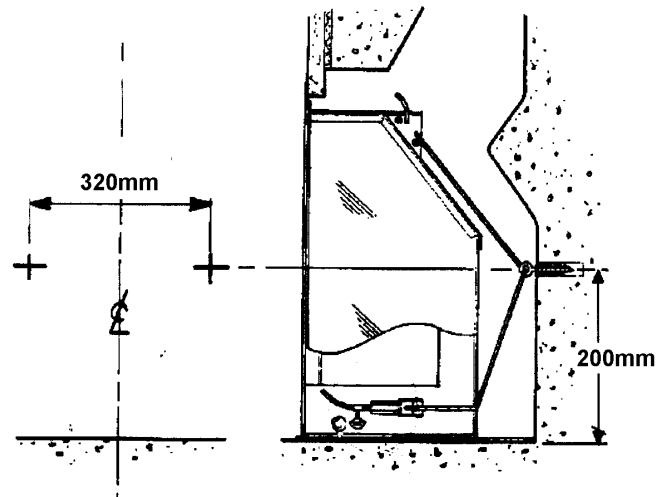

Figure 2 Eyebolt hole positions
- Drill two holes in the rear wall of the fireplace for the eyebolt plugs using a no.12 masonry drill. The nominal height of the holes should be around 200mm from the base of the opening. The holes should be equidistant each side of the centre line of the fireplace to ensure that the appliance finishes centrally in the opening when tension is applied to the cables. See figure 2.